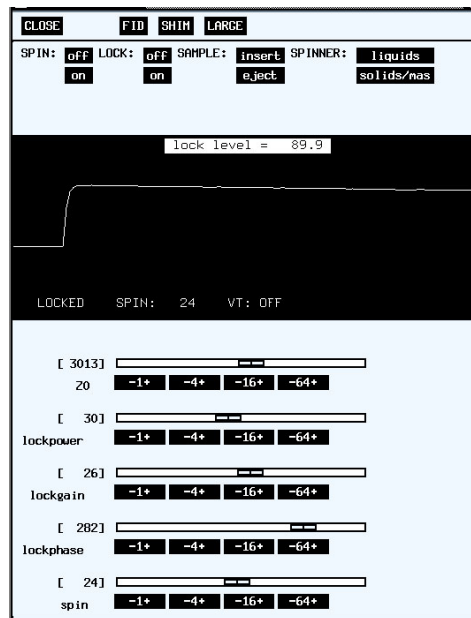

Figure 2 – Acqi window
4. Open the Acquisition window by selecting [**Acqi**]. See Figure 2